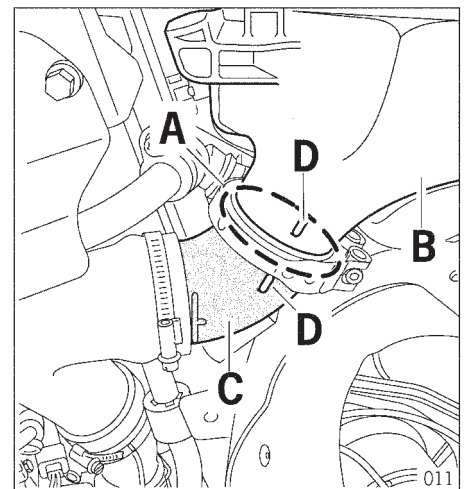

Figure 11
- 10.8.3** Position sealing ring, Figure 11, item A, (N 106 203 01) between left charge air cooler (B) and pressure pipe with pressure hose (C).